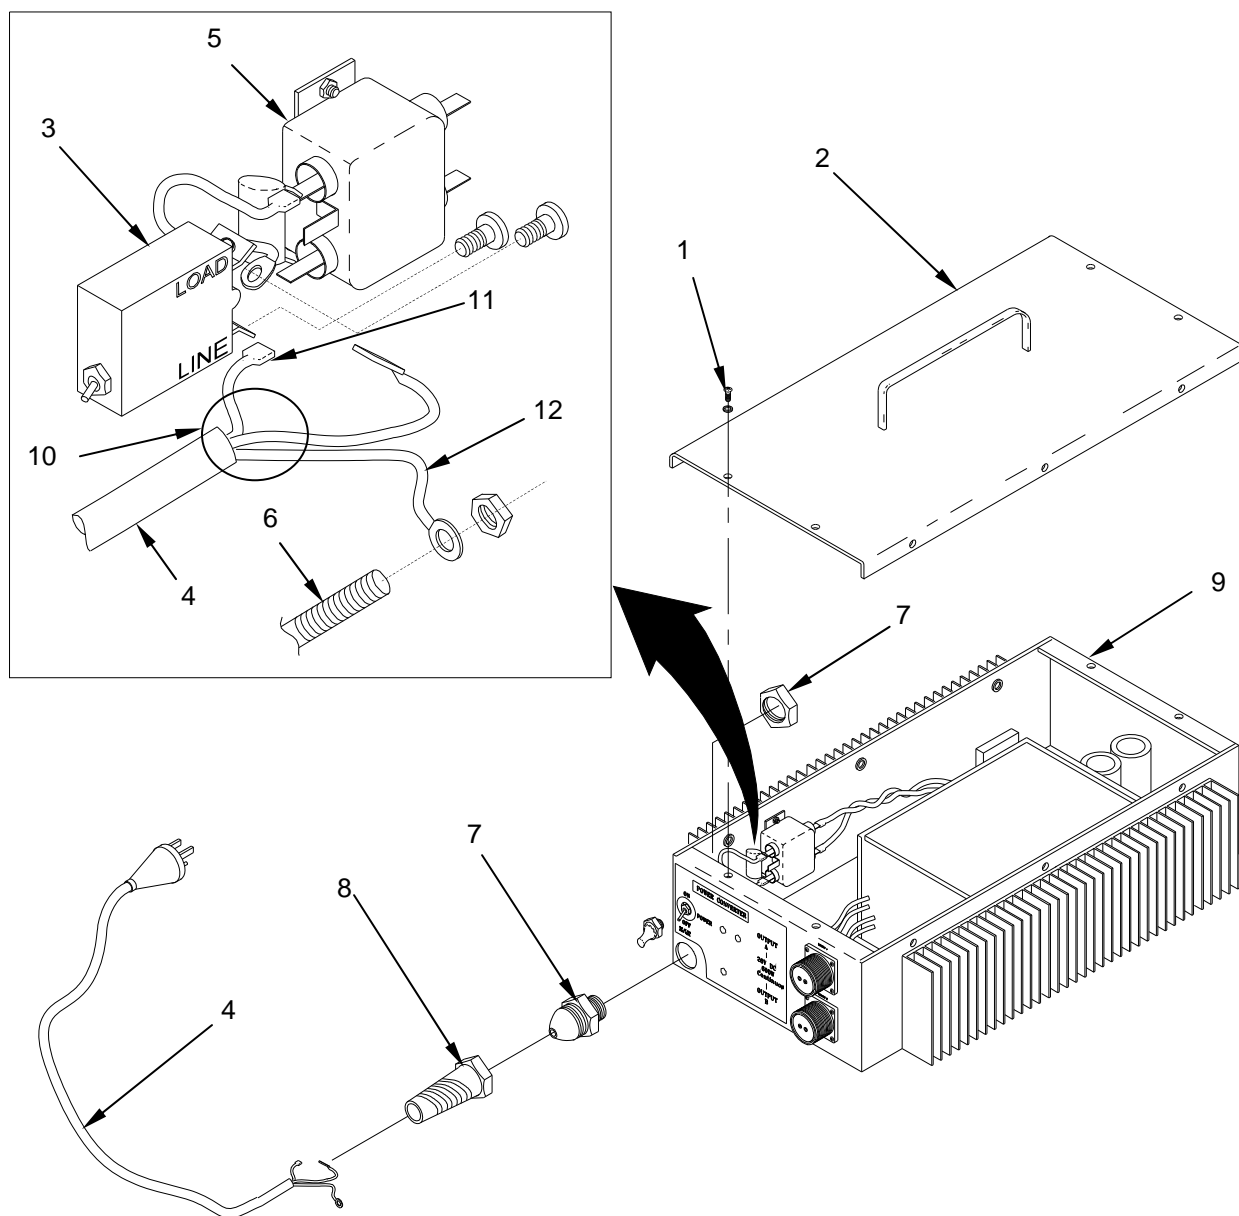

Figure 5. Replace the Power Cord (MS0150).
1. Remove the fasteners (Figure 5, Item 1) that secure the power converter cover (Figure 5, Item 2) and remove the cover. Retain the fasteners and cover for reassembly.
2. Remove the main power switch (Figure 5, Item 3) as detailed in “Replace the Main Power Switch (MS0150)” section of this WP.
3. Take note of the color of the power cord wires (Figure 5, Item 10) and where they are connected, to ensure that the cord is reconnected properly.
4. Disconnect the power cord spade terminal (Figure 5, Item 11) from the lower lug of the AC filter block (Figure 5, Item 5).
5. Remove the hex nut retaining the power cord ground wire (Figure 5, Item 12) to the grounding stud (Figure 5, Item 6) and remove the power cord ground wire. Retain the hex nut for reassembly.
6. Loosen and remove the inner plastic hex nut (Figure 5, Item 7) that is part of the cord securing collar. Retain the plastic hex nut for reassembly.
7. Pull the entire power cord assembly (Figure 5, Item 4) out of the power converter (Figure 5, Item 9).
8. Unscrew the strain relief (Figure 5, Item 8) from the outer section of the securing collar and pull the power cord (Figure 5, Item 4) free. Retain the securing collar (Figure 5, Item 7) and the strain relief for reassembly.
9. Thread the serviceable power cord (Figure 5, Item 4) through the strain relief (Figure 5, Item 8) and then the outer section of the securing collar (Figure 5, Item 7).
10. Slide the plastic hex nut (Figure 5, Item 7) over the terminal end of the power cord (Figure 5, Item 4).
11. Insert the terminal ends of the power cord (Figure 5, Item 4), with the strain relief assembly (Figure 5, Item 8) and the outer section of the securing collar (Figure 5, Item 7), through the hole in the front panel of the power converter (Figure 5, Item 9).
12. Connect the spade terminal of the BLUE wire to the lower terminal of the AC Filter block (Figure 5, Item 5).
13. Connect the GREEN/YELLOW wire to the grounding stud (Figure 5, Item 6), on the inside surface of the front panel, and retain with hex nut.
14. Reinstall the main power switch (Figure 5, Item 3) as detailed in “Replace the Main Power Switch
16. Secure the inner plastic hex nut (Figure 5, Item 7) onto the outer section of the securing collar (Figure 5, Item 7).
17. Secure the stain relief (Figure 5, Item 8) to the outer section of the securing collar (Figure 5, Item 7).
18. Reinstall the power converter cover (Figure 5, Item 2) and secure with the retained fasteners (Figure 5, Item 1).